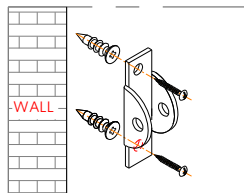

Figure 1
3. Determine the final position of the furniture piece. Position the metal bracket on the wall stud approximately 2" below the metal bracket mounted to the back of the furniture. Mark and drill pilot hole into the center of stud with 3/32" drill bit. Attach metal bracket into the wall by using screws and Wall plug. (FIGURE 1)